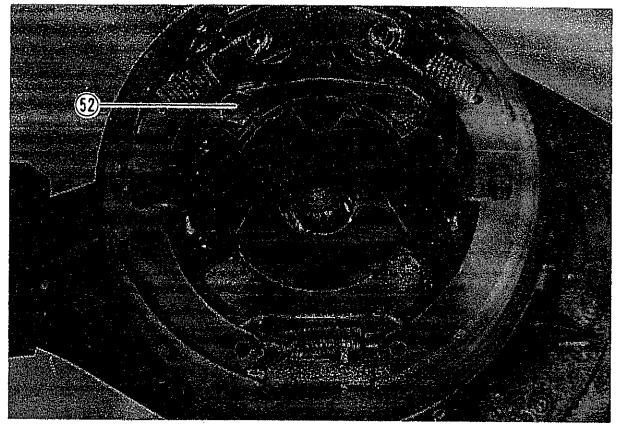

Fig. 61
- 2) Remove bolts (52) and separate brake assembly. (Fig. 61)